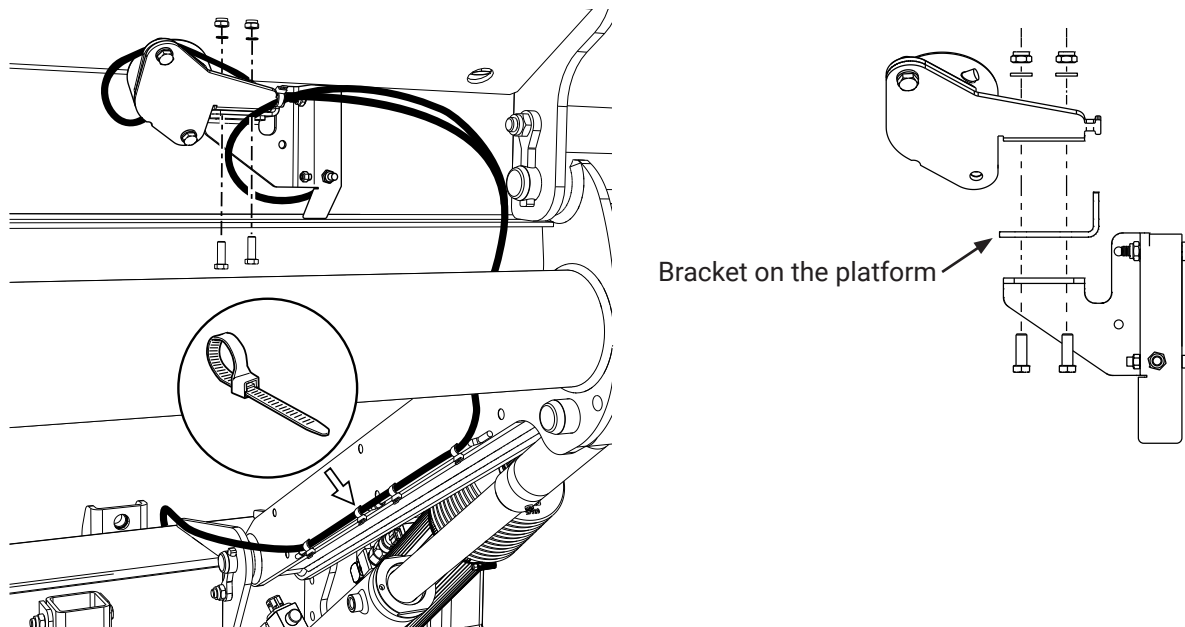

Figure 58. Installing an angle sensor for auto tilt
1. Install the angle sensor on the platform using the nuts, bolts and washers supplied and attach the cable using cable ties; see Figure 58